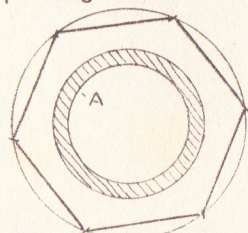

Fig. 1—Marking the base
A hexagon shape for the stand will be easy to work, and its dimensions can be estimated by the following method, as depicted in Fig. 1. On a sheet of paper strike the two concentric circles shown at (A), the inner circle being a trifle less in diameter than the opening of the bowl, and the outer circle a little more than that of the rim. Outside these strike a third circle about 1in. larger all round. Step off the radius of this circle round the circumference, and join the points to make the hexagon.